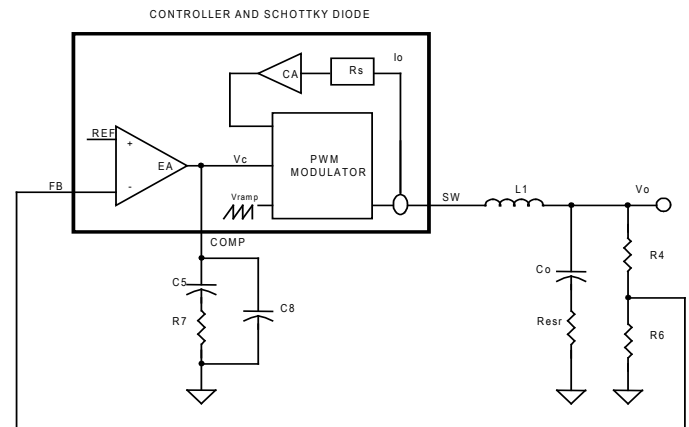

Figure 8. Block diagram of control loops
The goal of compensation is to shape the frequency response of the converter so as to achieve high DC accuracy and fast transient response while maintaining loop stability (see Figure 8).
The block diagram in Figure 8 shows the control loops of a buck converter with the SC4525E. The inner loop (current loop) consists of a current sensing resistor (R_S=3.53mΩ) and a current amplifier (CA) with gain (G_{CA}=18.5). The outer loop (voltage loop) consists of an error amplifier (EA), a PWM modulator, and a LC filter.
For a converter with switching frequency F_{SW}, output inductance L₁, output capacitance C_O and loading R, the control (V_C) to output (V_O) transfer function in Figure 8 is given by: